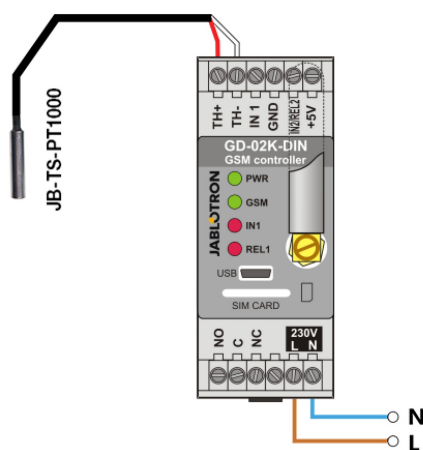

Figure 4: Temperature monitoring.
- Mind the correct polarity when connecting the temperature sensor (red wire = TH+, white wire = TH-), see Figure 4.